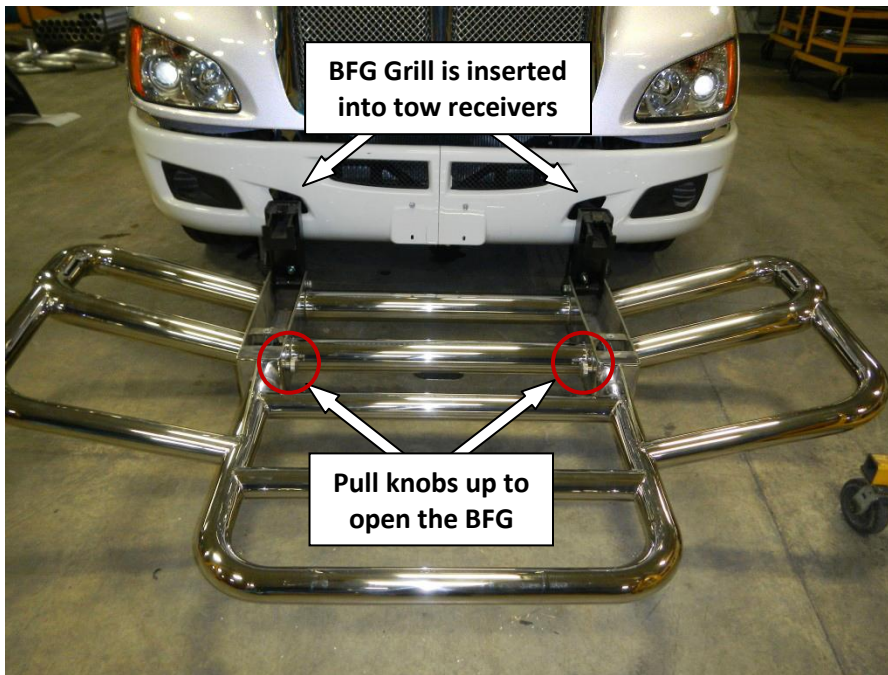

Figure 7
5. Insert BFG Grill into the truck's tow receivers as shown in Figure 7.
Note: BFG is open in Figure 7 to clearly show the installation. It is easier to insert the BFG with the Grill closed.
- a. Pull the knobs of the BFG up and open the bar (Figure 7).